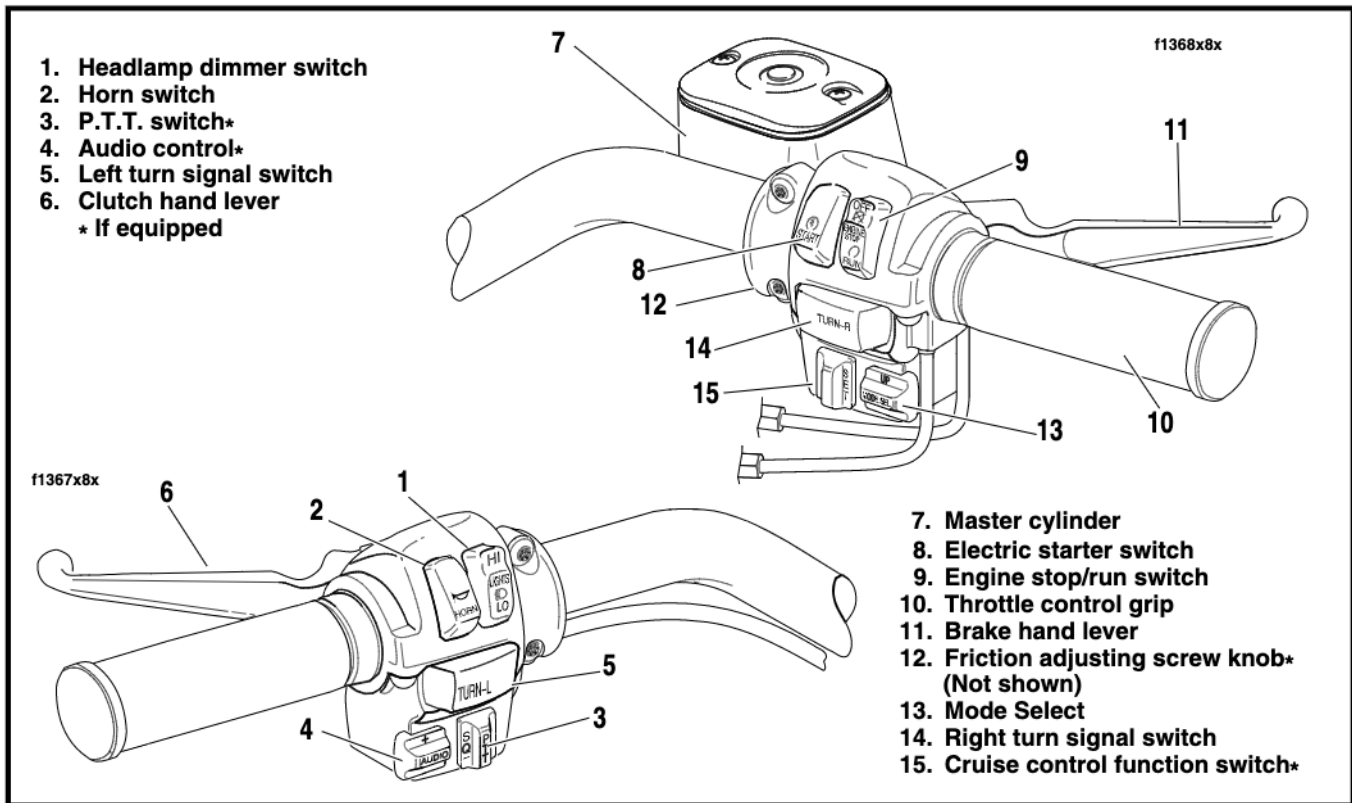

Figure 2. Handlebar Controls
See Figure 2. The electric starter switch (8) is located on the right handlebar control group. Put engine stop switch (9) in RUN position and transmission in neutral. Turn ignition ON and push the START switch to operate starter motor.
See Figure 2. Engine stop switch (9) is located on the right handlebar control. The engine stop switch turns ignition ON or OFF and should be used at all times to stop the engine, especially in an emergency. To stop engine, push switch to position marked OFF - then turn key to OFF.
See Figure 2. The throttle control grip (10) is located on the right handlebar control group. Turn control grip clockwise to close throttle; turn control grip counterclockwise to open throttle.
See Figure 2. The clutch hand lever (6) is located on the left handlebar where it is operated with the fingers of the left hand. Pull lever in against handlebar grip to disengage clutch; release the lever slowly to its outward position to engage clutch.
The brake pedal controls the rear wheel brake and is located on the motorcycle's right side. It is operated by the right foot. See Figure 2. The brake hand lever (11) controls the front wheel brake and is located on the right handlebar. It is operated by the fingers of the right hand.
See Figure 2. The horn is operated by the horn switch (2) on the left handlebar control group.
See Figure 2. The headlamp dimmer switch (1) on the left handlebar controls the headlamp high and low beams.
## Controls (Figures 2 and 5 and Table 1)